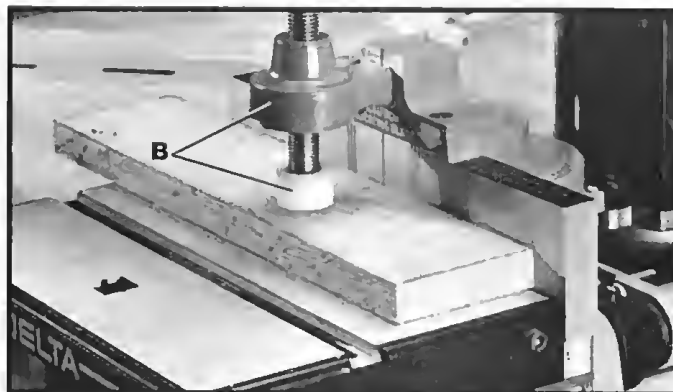

Fig. 34
2. Adjust the height of the table and line up one of the points marked in **STEP 1**, with the center line of the cutter, as shown in Fig. 34, and cut the first biscuit slot. Note the dual position work clamp (B) being used to firmly hold the workpiece on the table. Cut biscuit slots at the remaining three positions that were marked in **STEP 1**.